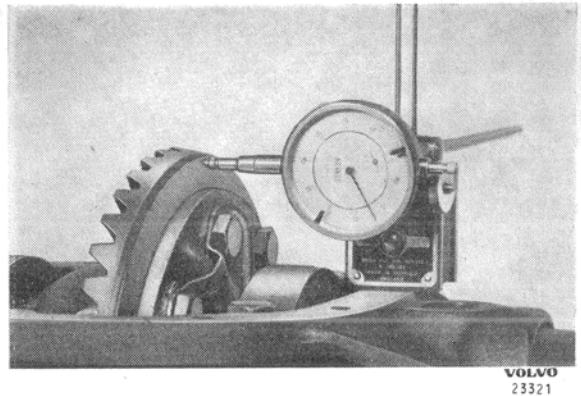

Fig. 40. Measuring the crown wheel run-out.
12. Fit the caps (32, 41) with their bolts and tighten the bolts. Fit a dial indicator against the back side of the crown wheel as shown in fig. 40. Rotate the crown wheel and check the run-out. This may not exceed 0,008 mm (0,003").